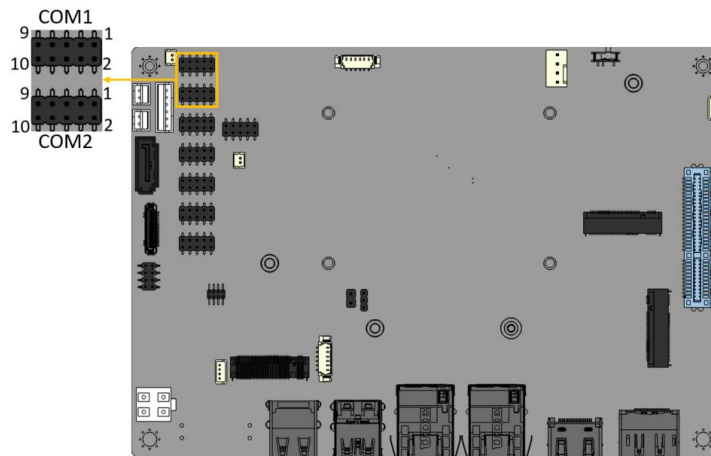

Figure 3-14: RS-232/422/485 Serial Port Connector Location
- CN Location:** See Figure 3-14